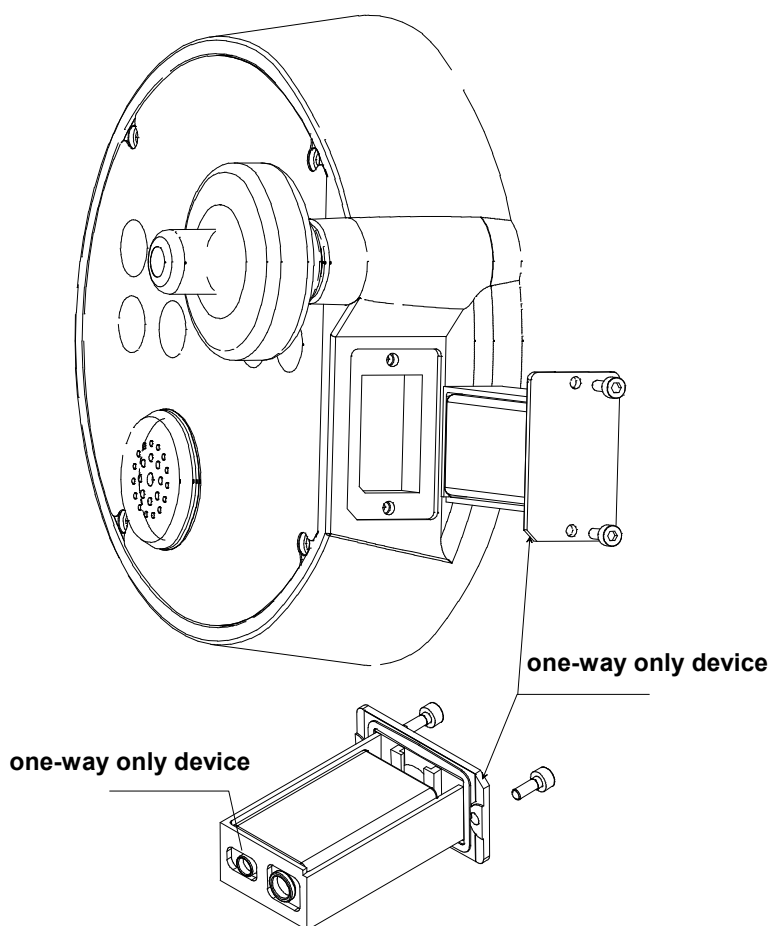
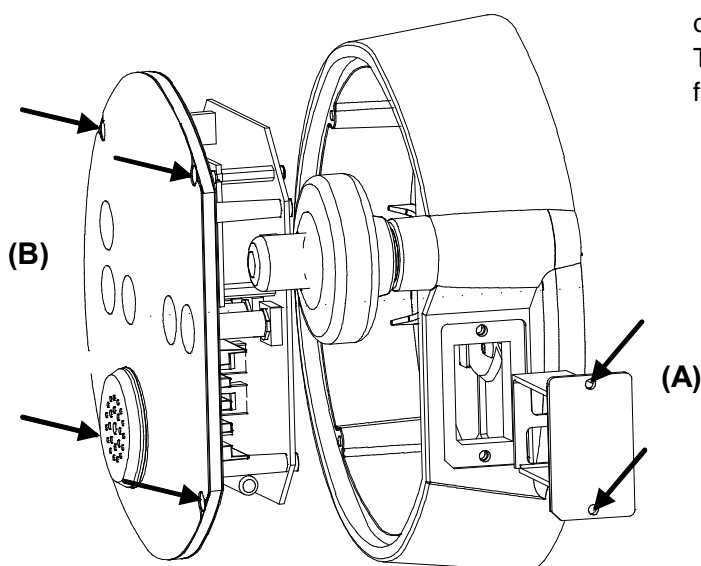

Figure 9-4
Figure 9-11
- Unscrew the 2 screws of the battery holder using the 2,5 mm Hex Allen key which is located on the carrying case. See Figure 9-4.
- Change the battery (one-way only device). See Figure 9-4.
- Unscrew with the 2.5 Allen key the 2 screws (A) of the battery holder and pull it out as shown on Figure 9-11.
- Unscrew with the 2.5 Allen key the 4 screws (B) of the display unit and pull it gently out of the electronic box, as shown on Figure 9-11.
- Put back the new display unit in the electronic box; tighten the 4 screws (B) of Figure 9-11.
- Reinstall the battery holder with the 2 screws (A) of Figure 9-11. Refer to Figure 9-4 page 38.